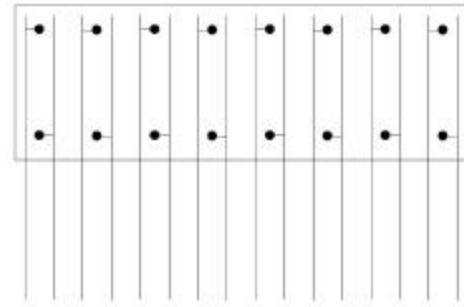

Figure 1b Ribbon cable DIP plug
Some of the circuits in this lab use a long (ten foot) ribbon cable, which is a flat strip of insulated parallel wires. Adjacent wires in the cable alternate between connecting to the top and bottom pins of a 14-pin DIP connector, shown in Figure 1b (note, the figure actually shows a 16-pin configuration).
5. Leaving the rest of the circuit intact, select an unused inverter and connect its input to ground. Then connect its output, which should be V_{CC} (a DC signal), to the input of a wire two steps over (refer to Figure 1b to see how the pins correspond to the physical layout of the wires). You will now have a square wave on one wire and V_{CC} on another, with one wire between them carrying no signal. On the oscilloscope, simultaneously display the V_{CC} signal at each end of the cable (use either a 2V or 5V scale on both channels). Your source waveform should be a fairly clean 5V signal, but the signal at the other end should display some oscillation. Explain why this happens. Refer to Figure 7 for schematic.